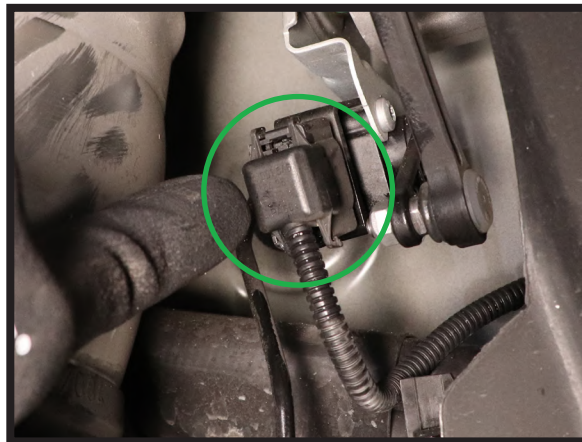

FIGURE 8
8. DISCONNECT THE RIDE HEIGHT SENSOR ELECTRICAL CONNECTION. (FIGURE 8)